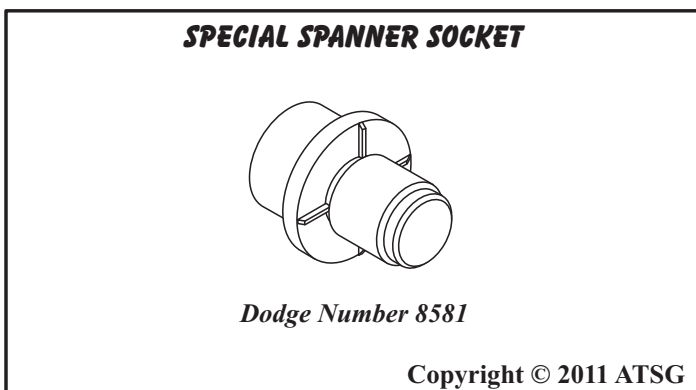

Figure 62
*Note: Spanner socket is available from Dodge under part number 8581 (See Figure 62). The tabs on spanner socket fit into slots on range sensor bracket retaining nut.*